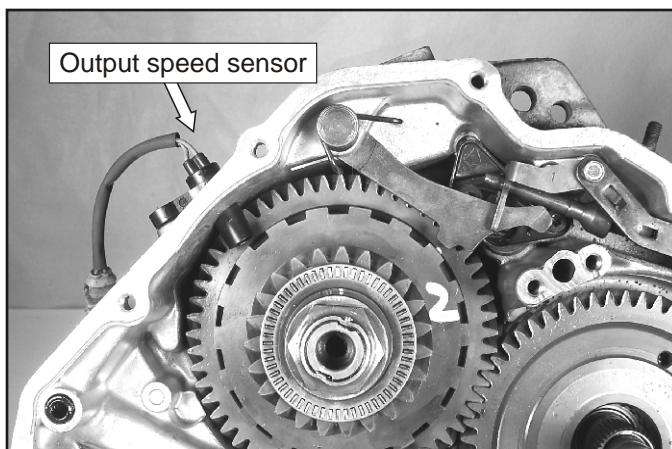

Figure 51
11. Remove the 27 torx headed output shaft speed sensor bolt and remove the sensor as shown in Figure 51. **Note: The bolt length is 13mm long.**